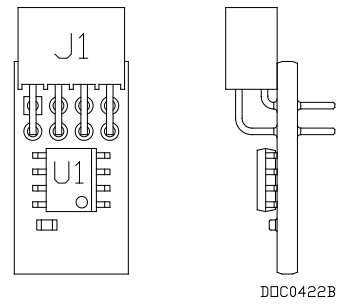
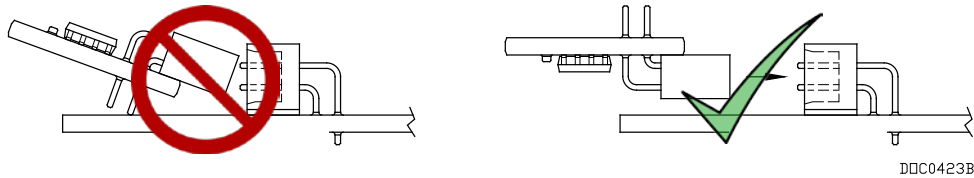

Figure 2-8. License Key
Figure 2-9. License Key Installation
The term “license key” refers to the physical piece of hardware (see *Figure 2-8* and *Figure 2-9*) that can contain up to seven different licenses. Each DL8000 can have none, one, or two installed license keys. If you remove a license key after enabling an application, the firmware disables the task from running. This prevents unauthorized execution of protected applications in a DL8000.
- Press the license key into the terminal until it is firmly seated (refer to *Figure 2-9*).
- Remove the license key from the appropriate terminal slot in the CPU (see *Figure 2-9*).